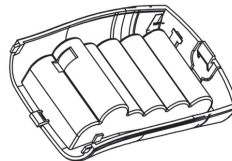

Figure 2
2. Insert the battery pack following the polarity markings (+ and -). See Figure 2.